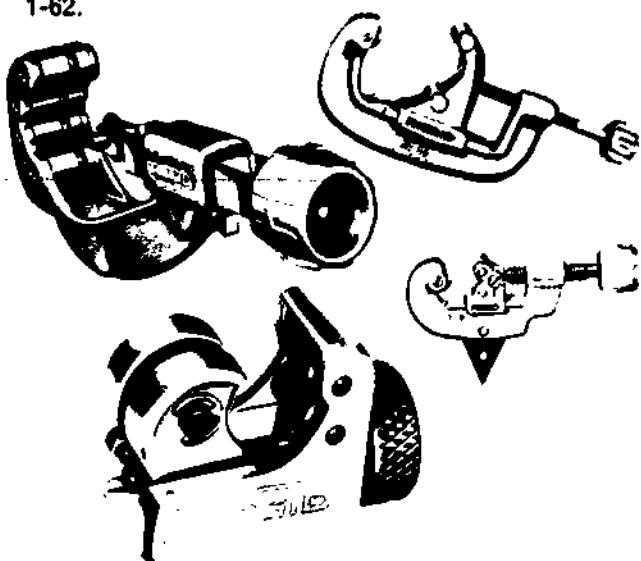

Figure 1-62. Tubing Cutters
- d) Four types of tubing cutters are shown in Figure 1-62.